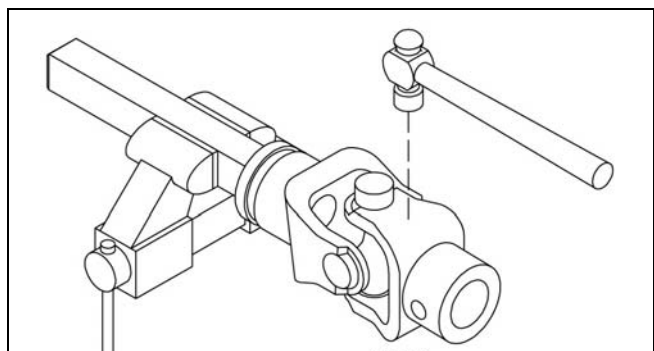

Figure 26. Remove Cups
2. With snap rings removed, support drive in vise, hold yoke in hand and tap on yoke to drive cup up out of yoke. See Figure 26.